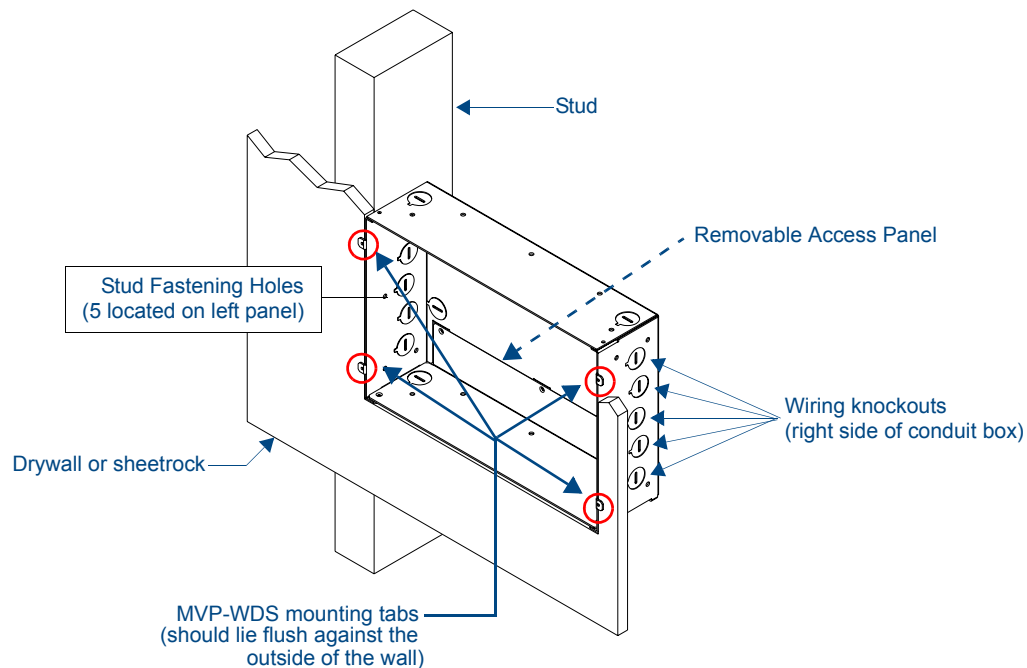

FIG. 3 CB-MVPWDS conduit box components
When mounting the conduit box, the MVP-WDS Mounting Tabs must lie flush against the outside of the sheetrock (FIG. 3).
1. Place the left side of the Conduit Box on a stud, making sure that five Stud Fastening Holes and removable Access Panel are oriented correctly (installation dependant). Be sure to leave enough of a gap between the stud and Mounting Tabs to accommodate the installation of the drywall or sheetrock after the conduit box has been mounted. Ultimately, the Mounting Tabs should lie flush against the outside of the sheetrock (FIG. 3).